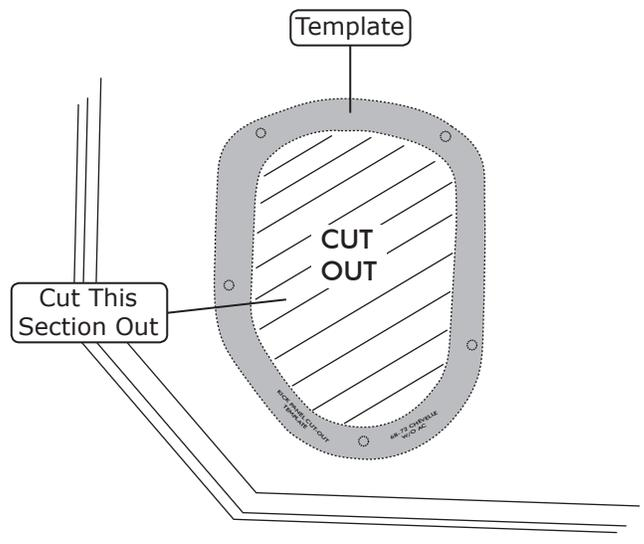

Figure 5a
3. Locate the template provided on Page 25. Place template on kick panel as shown in Figure 5a, below.